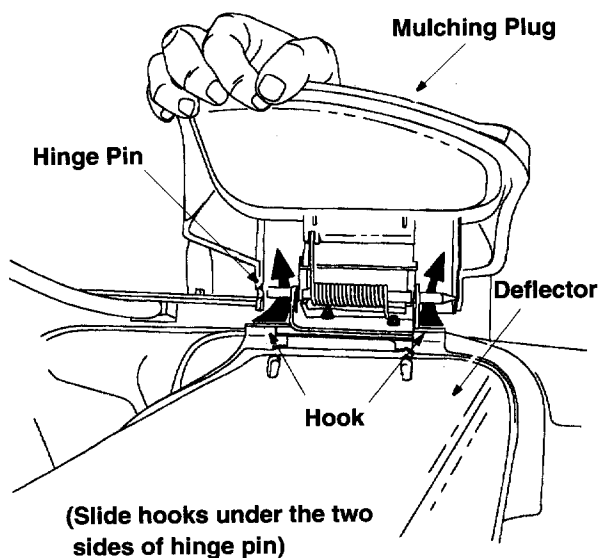

Figure 13
2. On the side of the mower, lift the mulching plug. See Figure 13.